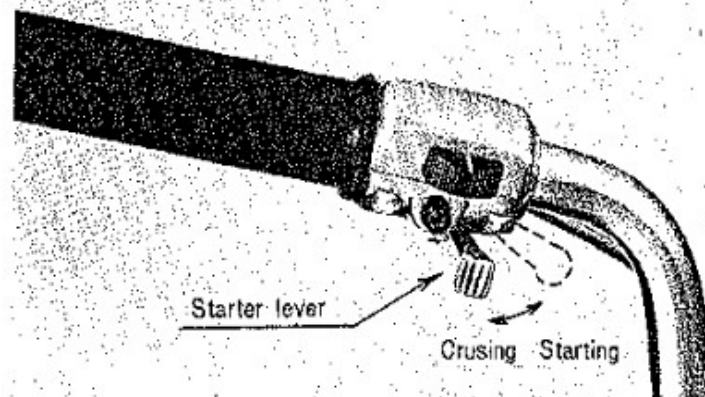

Fig. 2
- (2) Set the starter lever to starting position (Fig. 2)